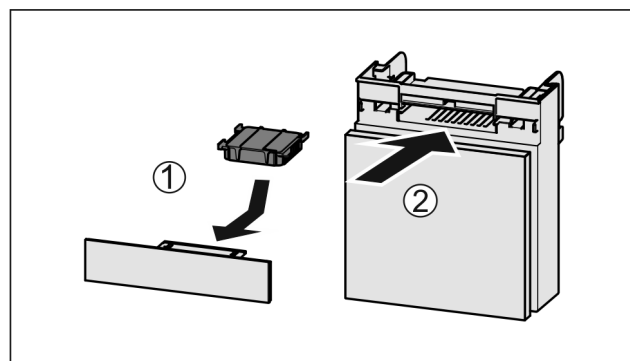

Fig. 32
- ▶ Insert the carbon filter as shown in the diagram Fig. 32 (1).
- ▶ Push the compartment in Fig. 32 (2).